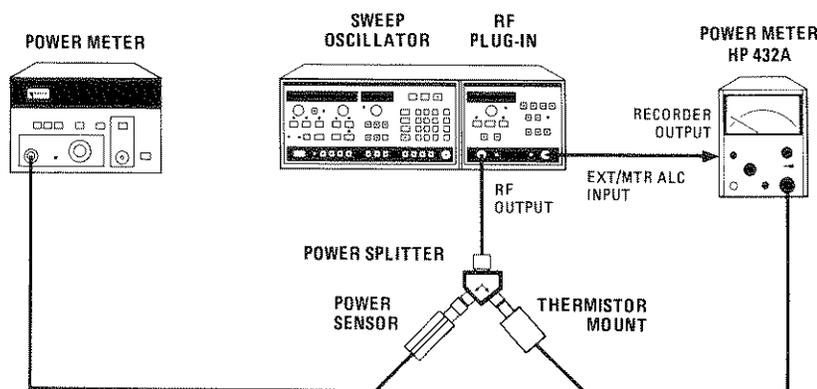

Figure 5-32. Power Meter Leveling Calibration
1. Connect equipment as shown in Figure 5-32. Press **CW** and select a frequency at midband. Set the RF power level to  $-2$  dBm, as indicated on the plug-in Front Panel display. Select the 0 dB range on the HP 432A Power Meter. Both meters should read approximately  $-8$  dBm. Note the insertion loss through the Power Splitter.